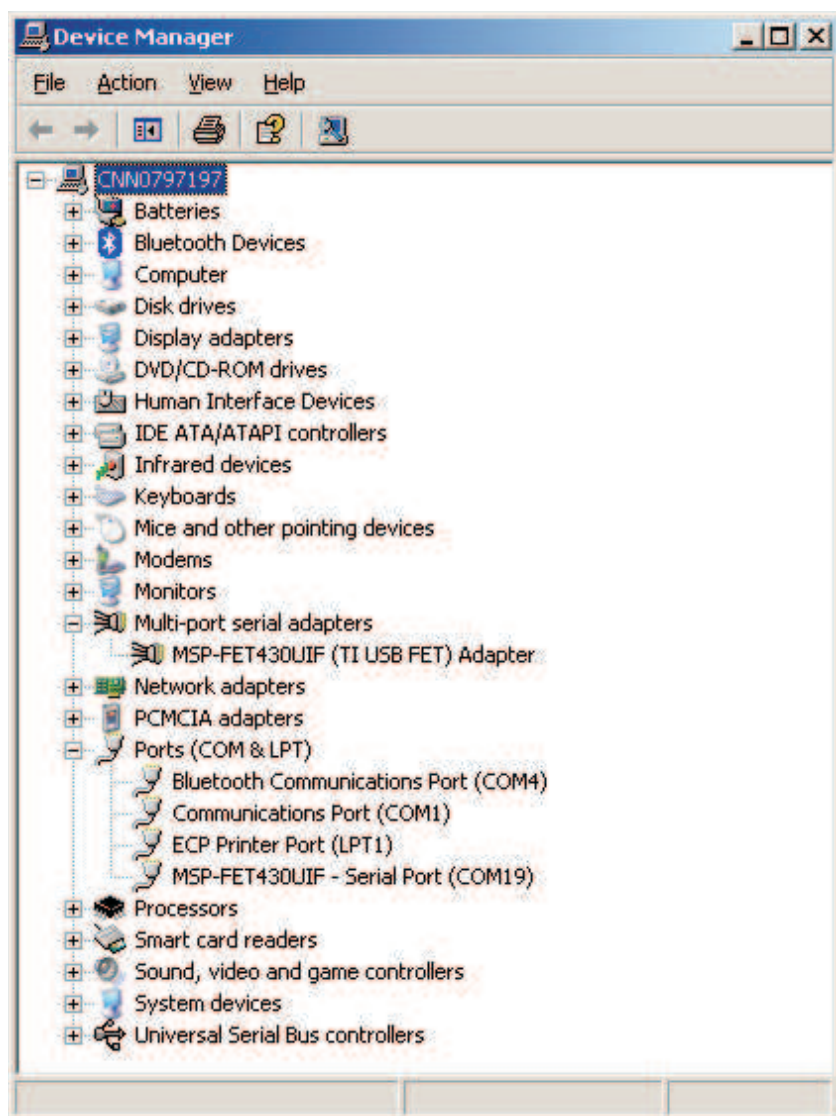

Figure E-5. Device Manager
12. The MSP-FET430UIF debug interface is installed and ready to use. The Device Manager lists a new entry as shown in Figure E-5.